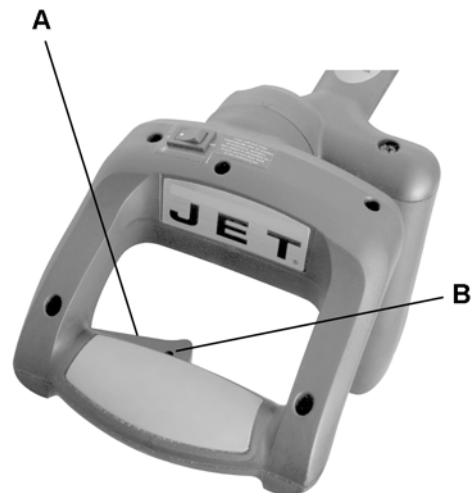

Figure 22
4. Squeeze the *trigger switch* (A, Fig. 22) to start saw.
2. Release trigger switch (A, Fig. 22) and wait for all moving parts to stop before moving your hands and raising the cutting arm.
Depress the trigger switch (A, Fig. 22).
Note: Make the On/Off switch child-proof by inserting a padlock through the hole (B, Fig. 22) in the trigger switch.